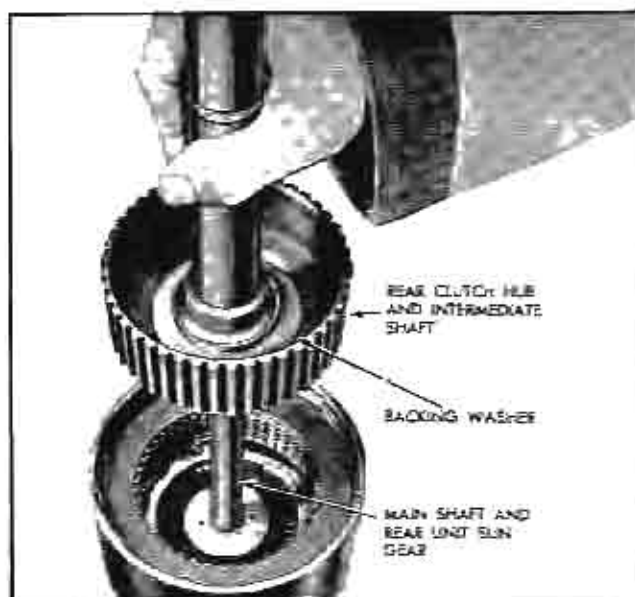

Fig. 90 Installing Intermediate Shaft and Clutch Hub into Plates
hub (Fig. 90) Place backing washer, flange up, on the large thrust washer.
16. Lower intermediate shaft and clutch hub with thrust washers into rear drum (Fig. 90). NOTE: Pick up clutch drive plates by rotating intermediate shaft. Do not drive or force clutch hub into mesh with drive plates.